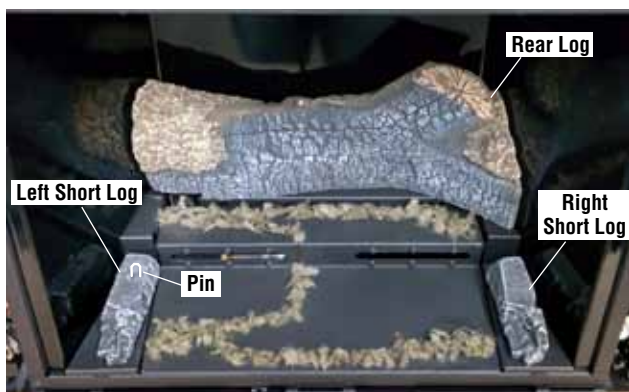

Figure 11
4. Place a layer of glowing embers (rockwool) directly over the ports (**Figure 11**).